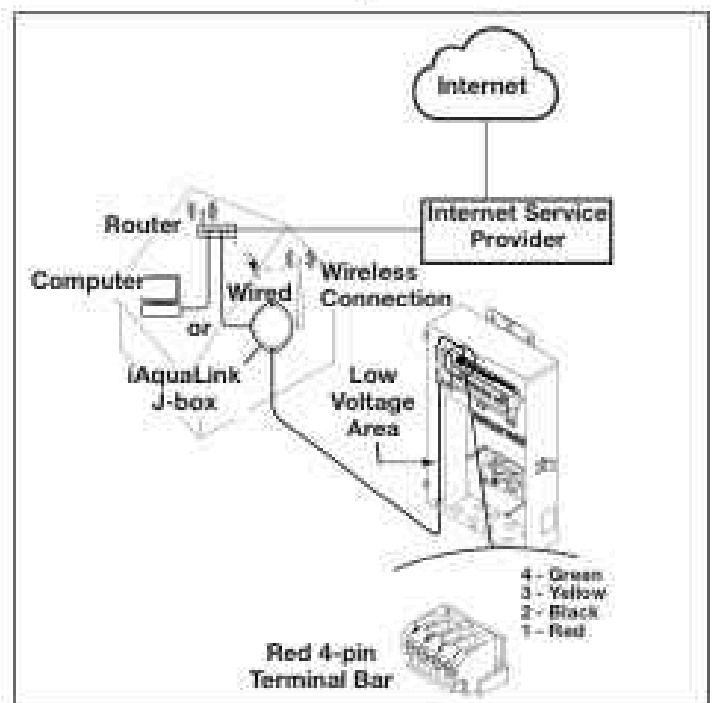

Figure 31. iAquaLink J-Box Indoor Installation
2. Mount the outdoor iAquaLink J-box at least six (6) feet (1.8 m) above the ground, at least ten (10) feet (3 m) from any motor or air blowers that may be in the vicinity, and at least five (5) feet (1.5 m) away from other transceiver J-boxes. See Figure 31.
5. Pull cable through the knockout and into the low voltage area. See Figure 31.
7. Strip each wire 3/4" (6 mm) and connect to the red, wire connector on the power center PCB. A multiplex kit (P/N 6584) may be required if there are more than two (2) cables running to a red, wire connector on the power center PCB.